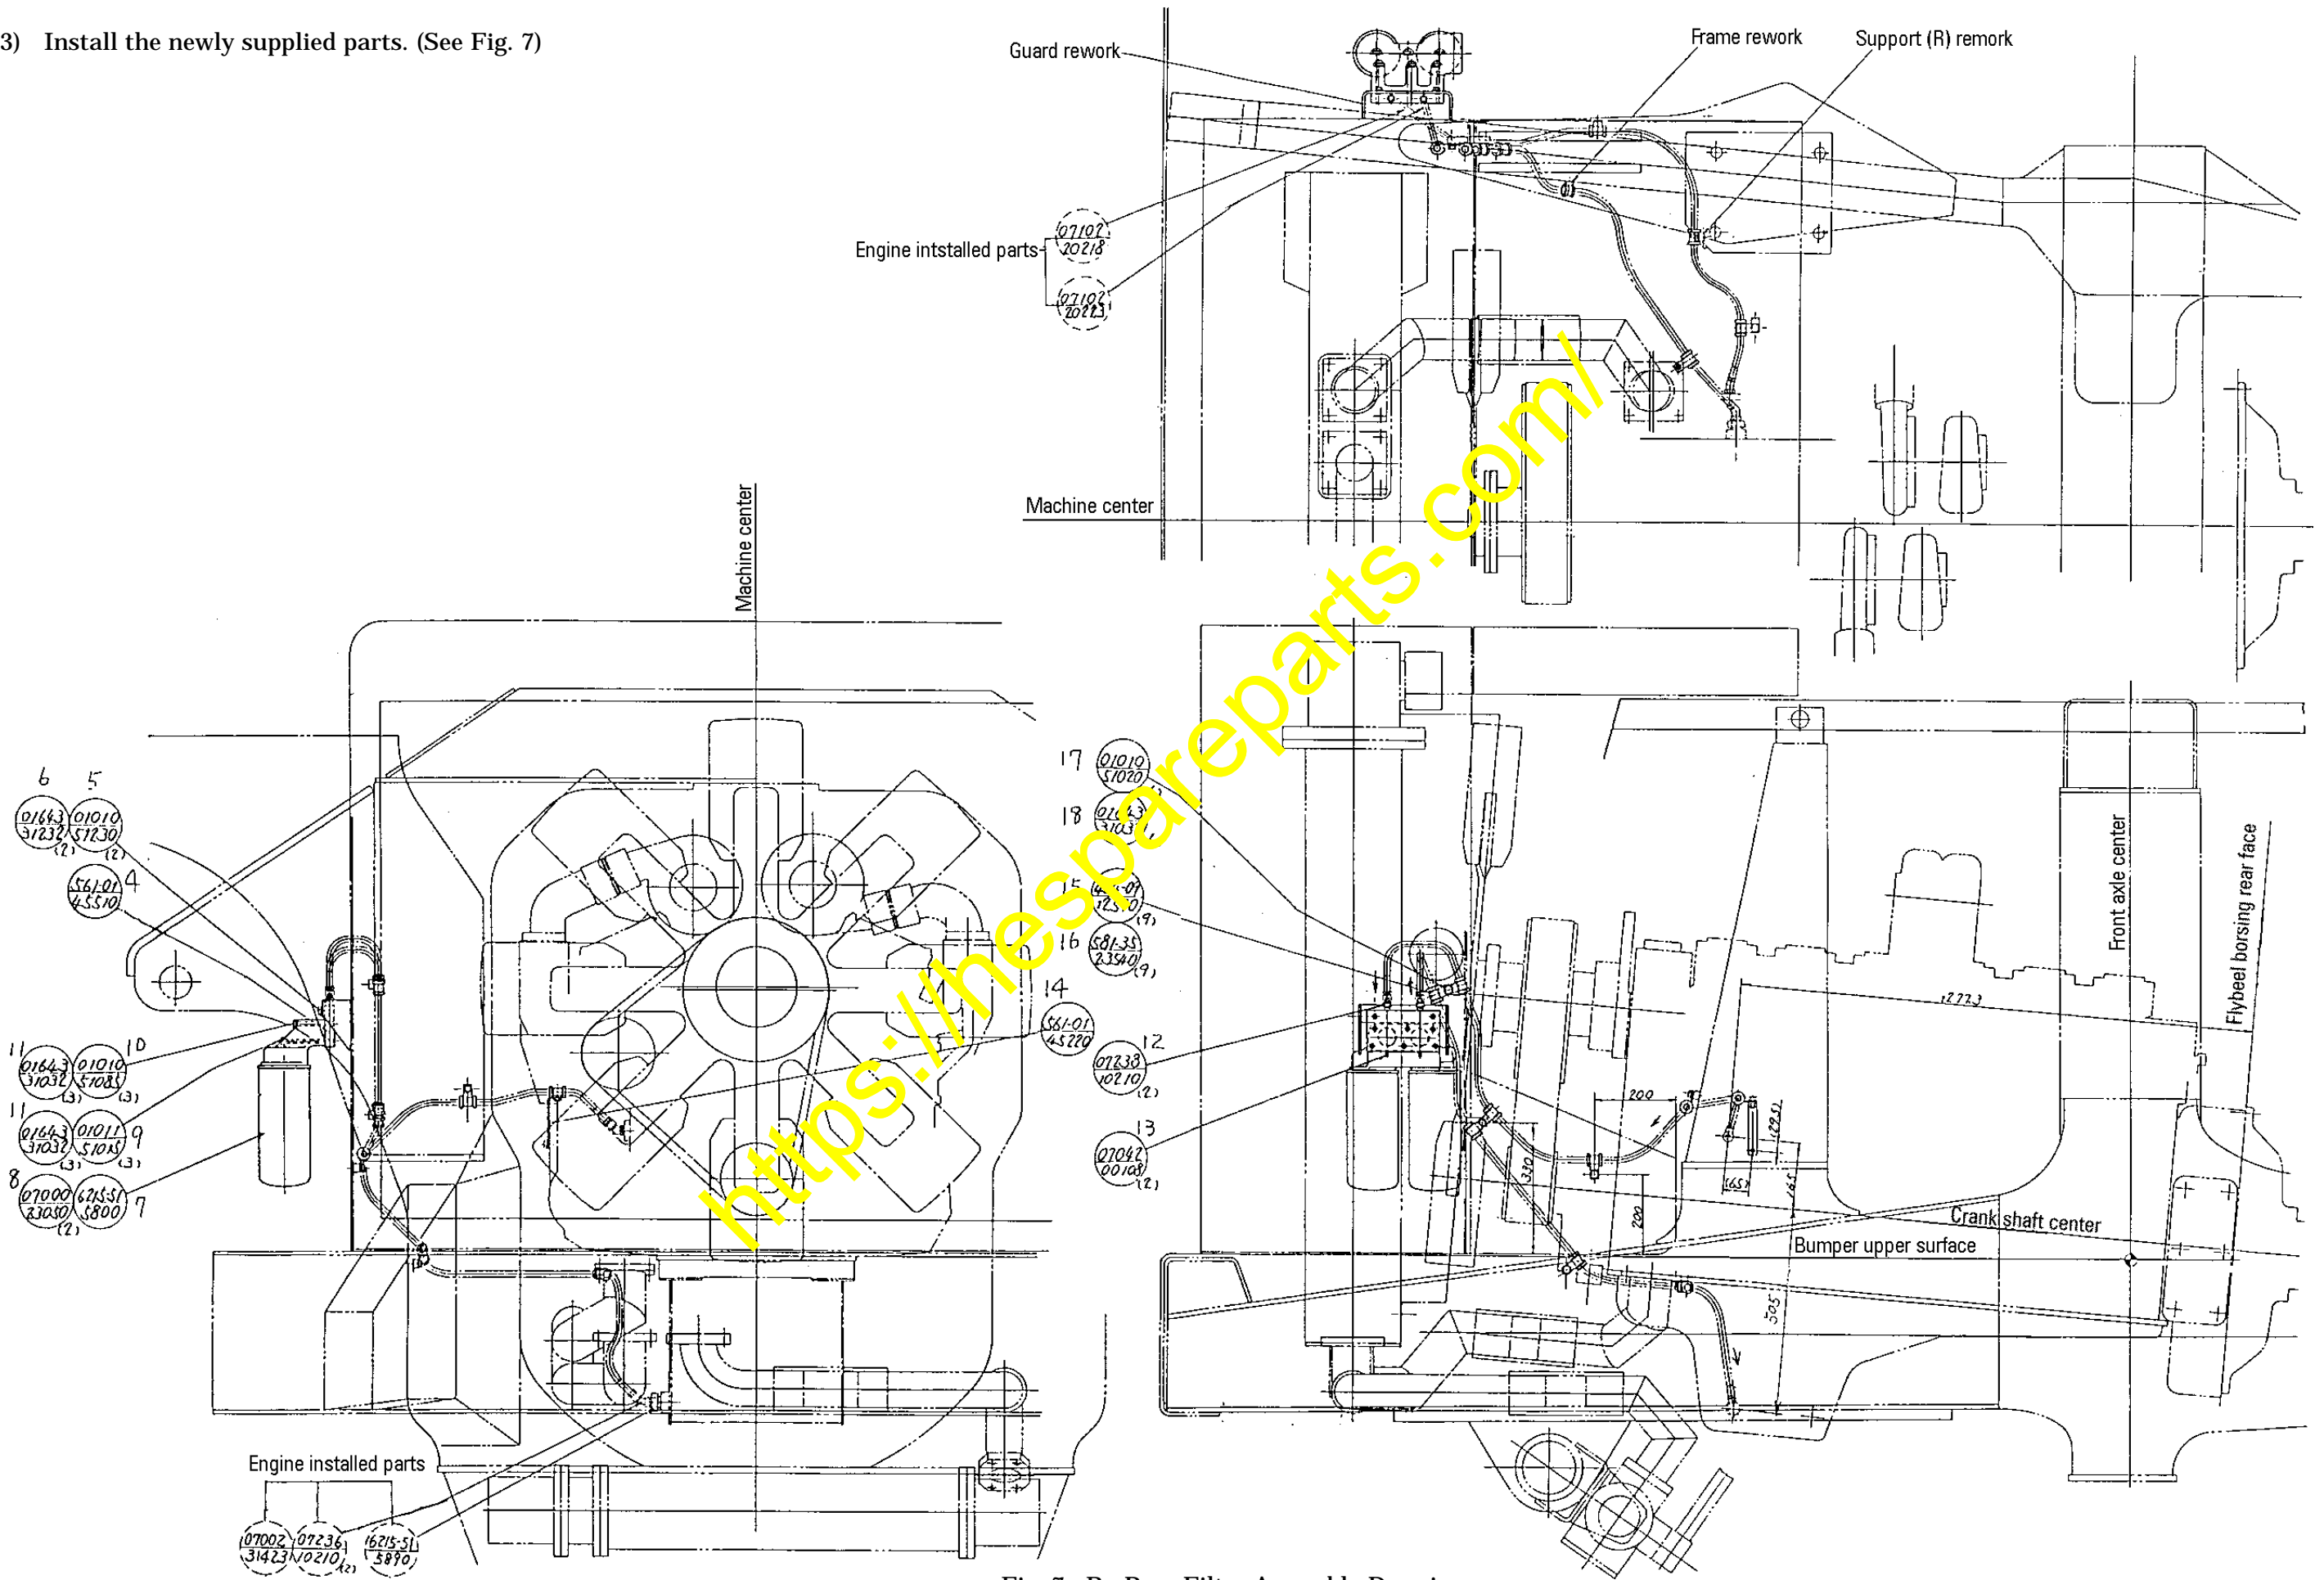

Fig. 7 By-Pass Filter Assembly Drawing
(3) Install the newly supplied parts. (See Fig. 7)